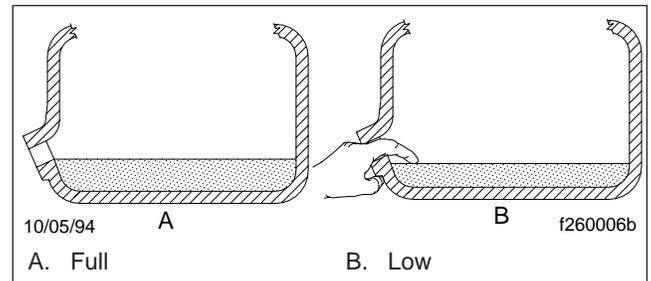

Fig. 1, Transmission Oil Level Checking
1. Add oil until it is level with the lower edge of the fill opening. See **Fig. 1**. If the transmission has two fill openings, add oil to the level of both fill openings.